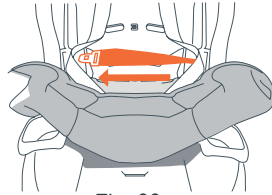

Fig. 33a
4. Route seat belt through forward facing belt path (Fig. 33a).